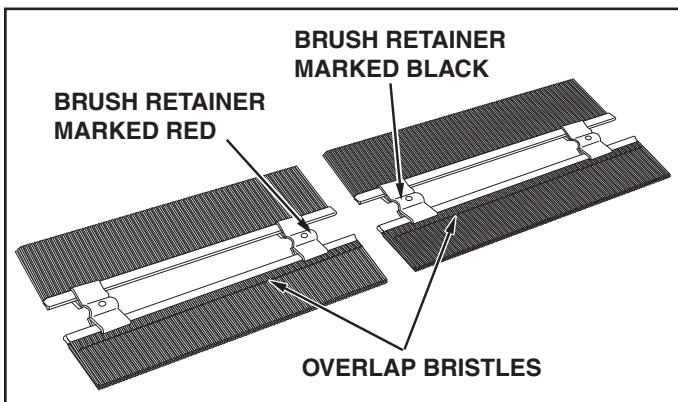

FIGURE 1
- (2) 1/2" Wrenches
STEP 2: (SEE FIGURE 1)